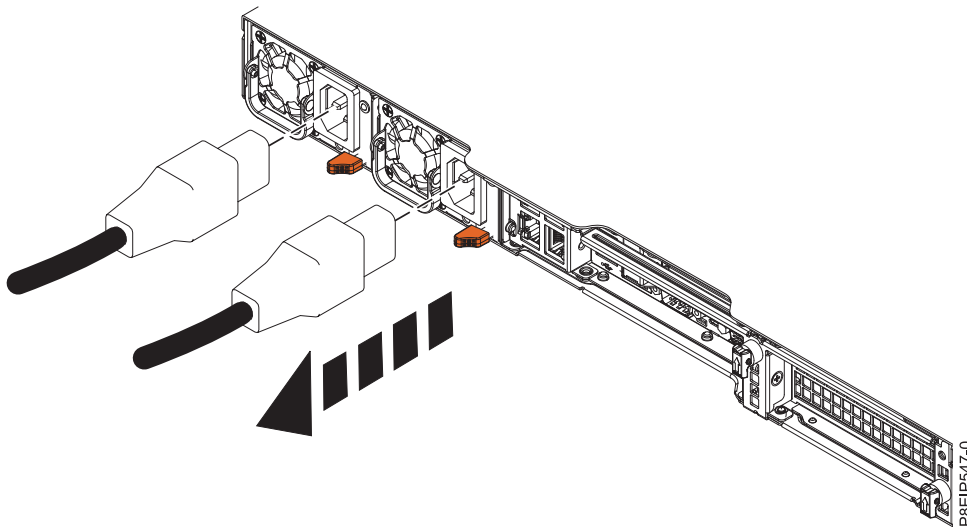

Figure 61. Removing the power cords from the system
2. Label and disconnect the power cords from the system unit as shown in Figure 61.